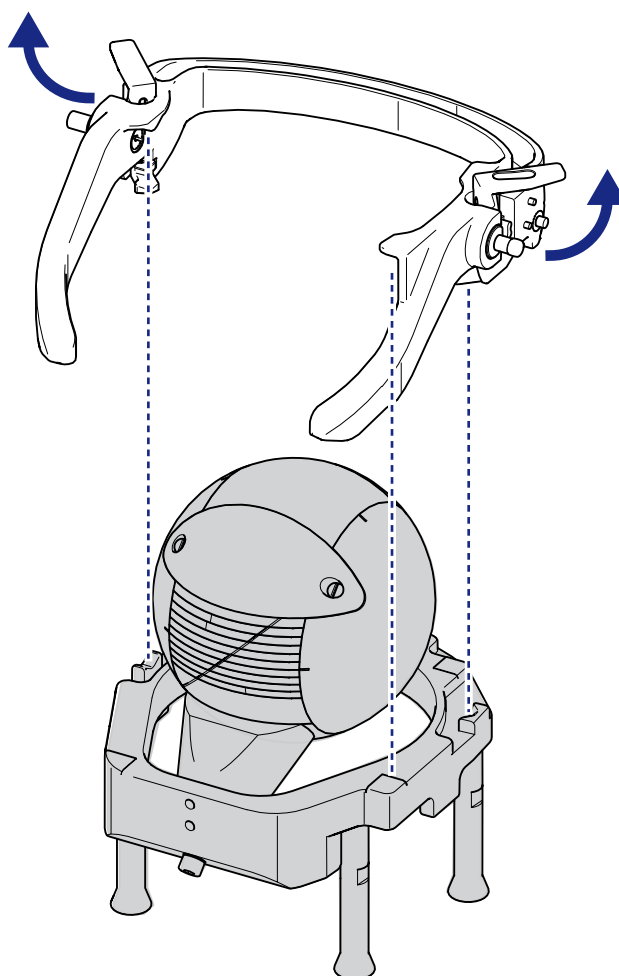

Figure 1.7 Attaching the Vantage frame adapter to the Dosimetry phantom
- b Release the left and right levers on the Vantage frame adapter, see Figure 1.7.